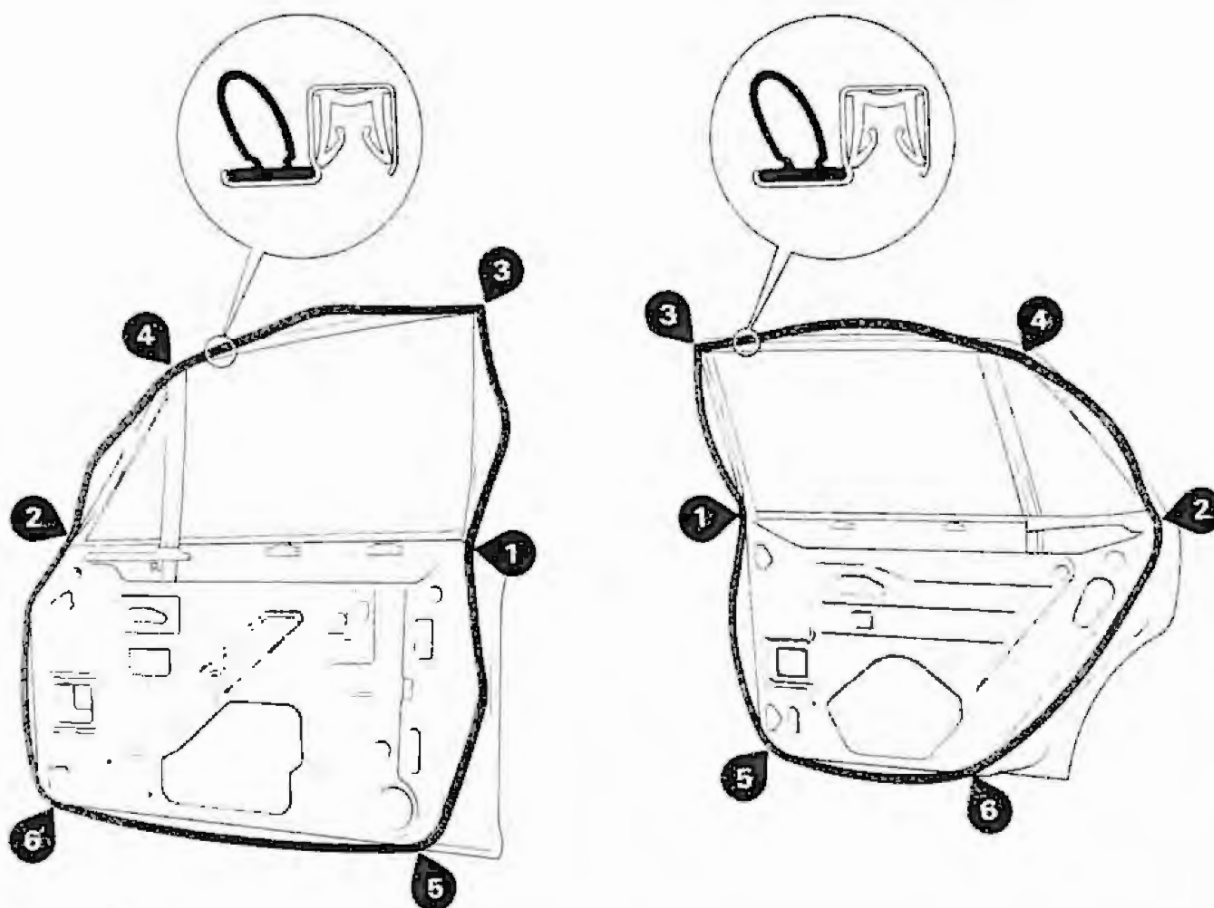

Fig. 16
1. Locate the door seal at the points shown in figure 16.